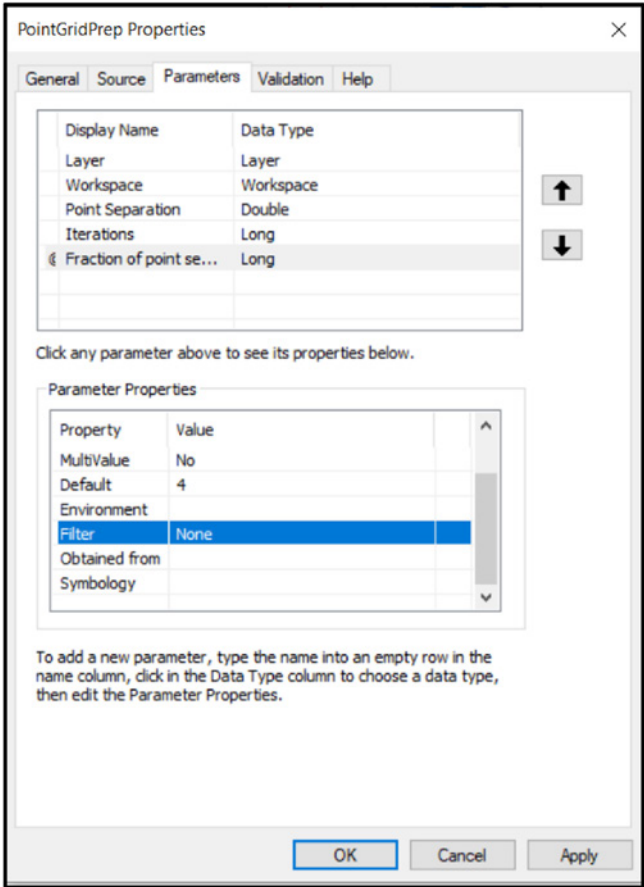

Figure 4. Screenshot of ArcGIS toolbox parameters used to run the code.
1. Add a new script in ArcMap toolbox that points to this script. Create 5 parameters with relevant data types (Figure 4).